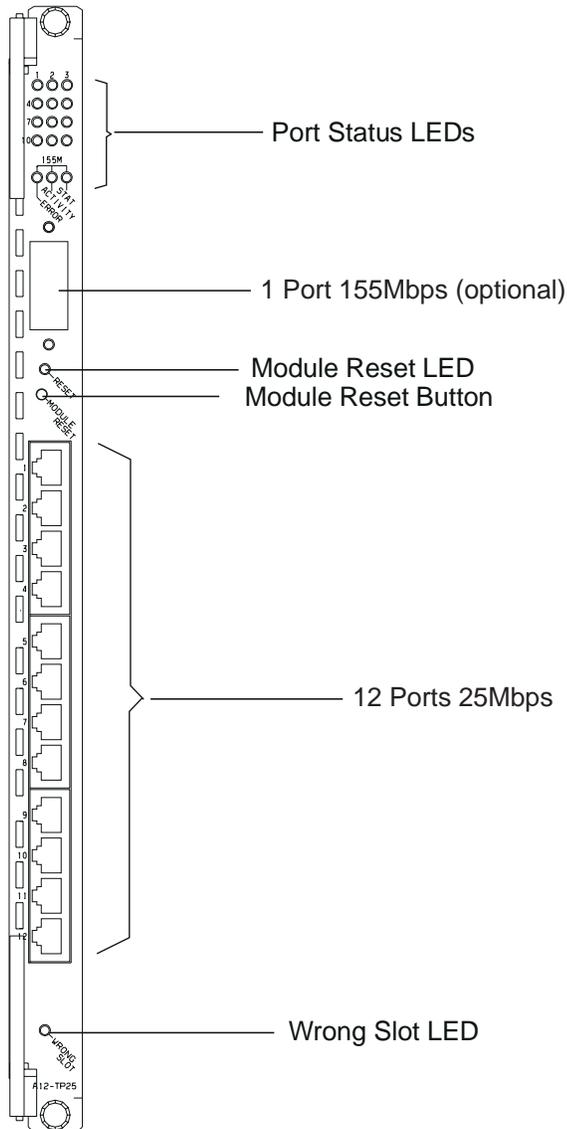

Figure 23. 25 Mbps Module Front Panel
Refer to Figure 23 when installing and configuring the 25 Mbps module.
- The port and module LEDs on the module faceplate (see Figure 23 on page 88)